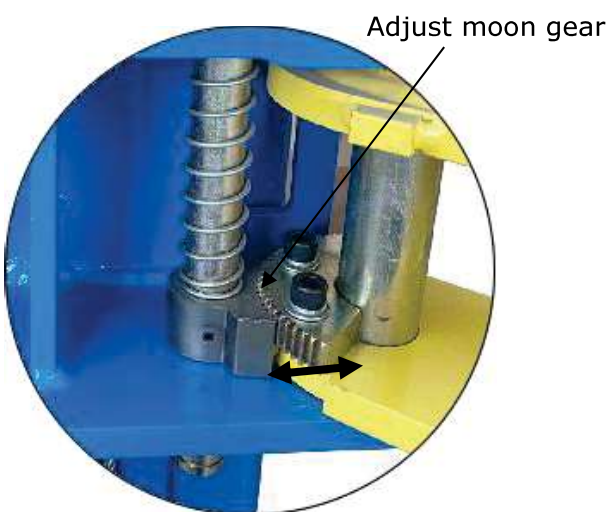

Fig. 27
3. Adjust the moon gear as arrow direction (See Fig. 27).